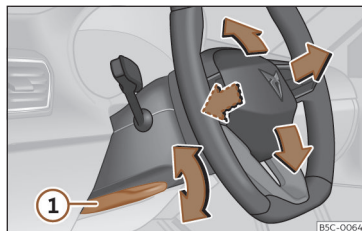

Fig. 84 Lever in the lower left side of the steering column.
• Pull lever >>> **Fig. 84** ① down, move the steering wheel to the desired position and lift the lever back up until it locks.
• After adjusting the steering column, push lever >>> **Fig. 84** ① firmly upwards so that the steering wheel does not accidentally change position while driving.